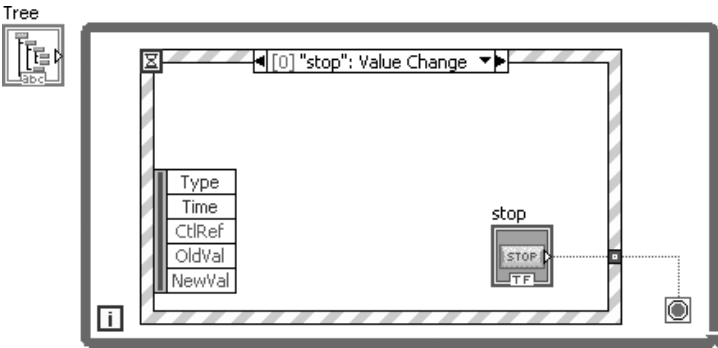

Figure 13.139
3. Build the block diagram so that it has a While Loop with an Event Structure, as shown in Figure 13.139. Add an event for the **stop** button's **Value Changed** event. Place the **stop** button terminal inside this event case and wire it to the While Loop's **Conditional Terminal**, which should be configured as **stop if true**.